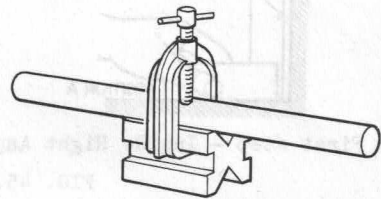

FIG. 42. VEE BLOCK.
5.14 VEE BLOCKS. These blocks (Fig. 42) are used for holding round section stock when marking out and performing some types of machining such as drilling.